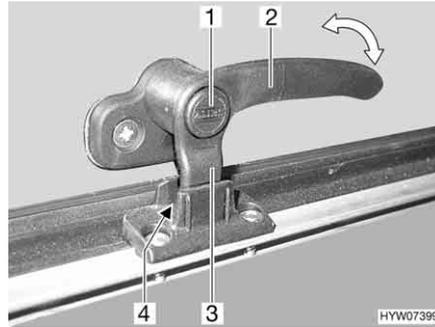
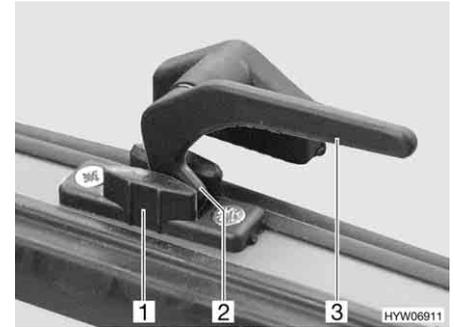

Fig. 82 Catch lever with safety knob in "continuous ventilation" position
Fig. 83 Catch lever in the "continuous ventilation" position
- "Continuous ventilation" (Fig. 82 and Fig. 83)
- Press and hold the security button (Fig. 82,1), if present.
- Turn the catch lever (Fig. 82,2 or Fig. 83,3) a quarter turn towards the centre of the window.
- Return the catch lever to its initial position. Move the locking catch (Fig. 82,3 or Fig. 83,2) on the catch lever into the recess of the window catch (Fig. 82,4 or Fig. 83,1).